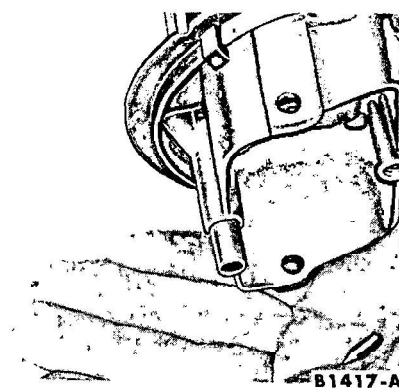

FIG. 15—Accelerating Pump Discharge Needle Removal—Holley 4-V
1. Remove the accelerating pump discharge nozzle screw. Lift the pump discharge nozzle and gaskets out of the main body. Invert the main body and let the accelerating pump discharge needle fall into the hand (Fig. 15).